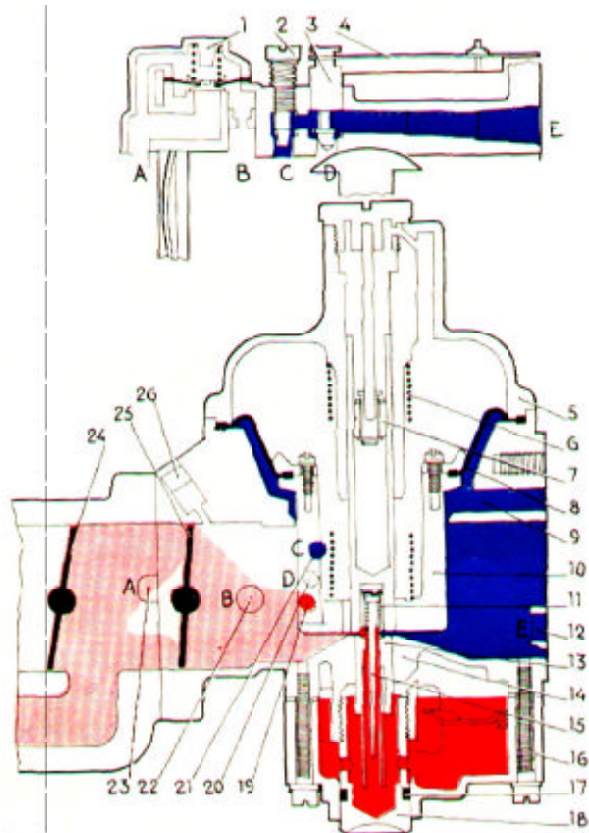
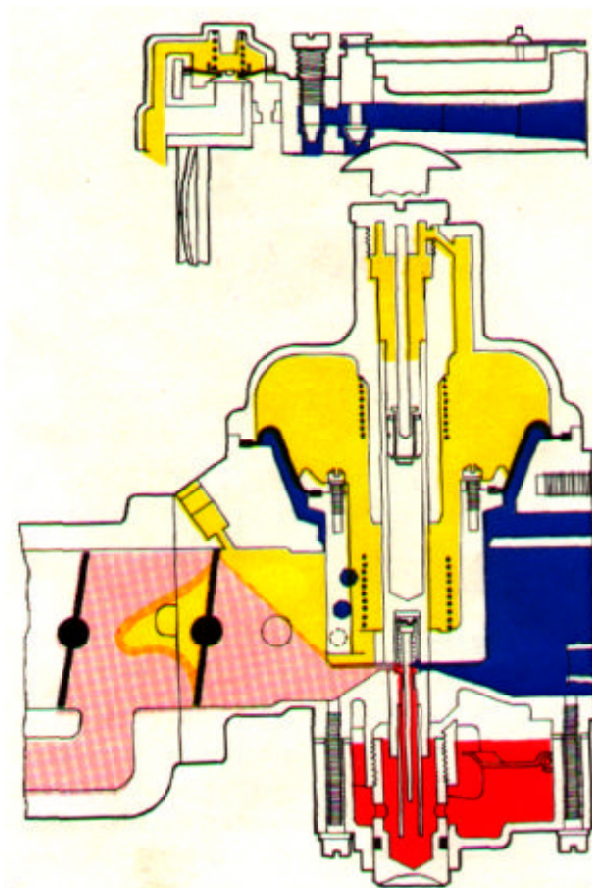
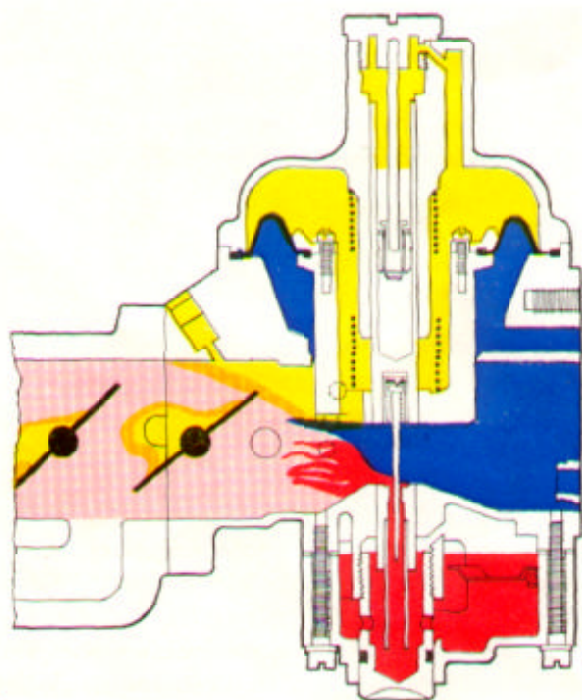

Fig. 72 Cold starting principle
Fig. 73 Idling, warm engine
Fig. 74 Normal operation (with secondary throttle)
When the engine is idling, the vacuum in the carburettor suction chamber is low and the column between the air valve and the bridge will be small (see Fig. 73). At this stage, the thicker section of the metering needle is in the jet and thus only a small quantity of fuel, corresponding to idling requirements, is sucked into the engine. The temperature compensator (Fig. 72) is regulated by a bi-metal spring (4) which influences a valve (3). When the engine is warm and the temperature in the carburettor rises, the valve opens and air is
supplied to the carburettor venturi to compensate for the increase in the fuel flow, which is obtained due to the alteration in the fuel's viscosity, see Fig. 73. Fine adjustment of the engine idling speed can be carried out with the idle trimming screw (2, Fig. 72).
When the throttle flap opens, approximately the same vacuum is obtained in the suction chamber as in the engine intake manifold. Due to the pressure difference between the underside of the air valve, where there is pressure in the carburettor inlet port, and the upper side of the valve, where there is vacuum, the valve lifts from the bridge. This also lifts the tapered metering needle (15, Fig. 72), which is attached to the valve, out of the jet. The effective choke area widens and increases the fuel flow. See Fig. 74.
When the air valve (10, Fig. 72) lifts, the damper plunger (7) is forced against its seat and oil is prevented from flowing past the lower side of the damper plunger from the upper side, and this retards the movement of the valve (10). A more powerful vacuum is temporarily obtained above the jet so that the fuel-air mixture becomes for the moment richer.